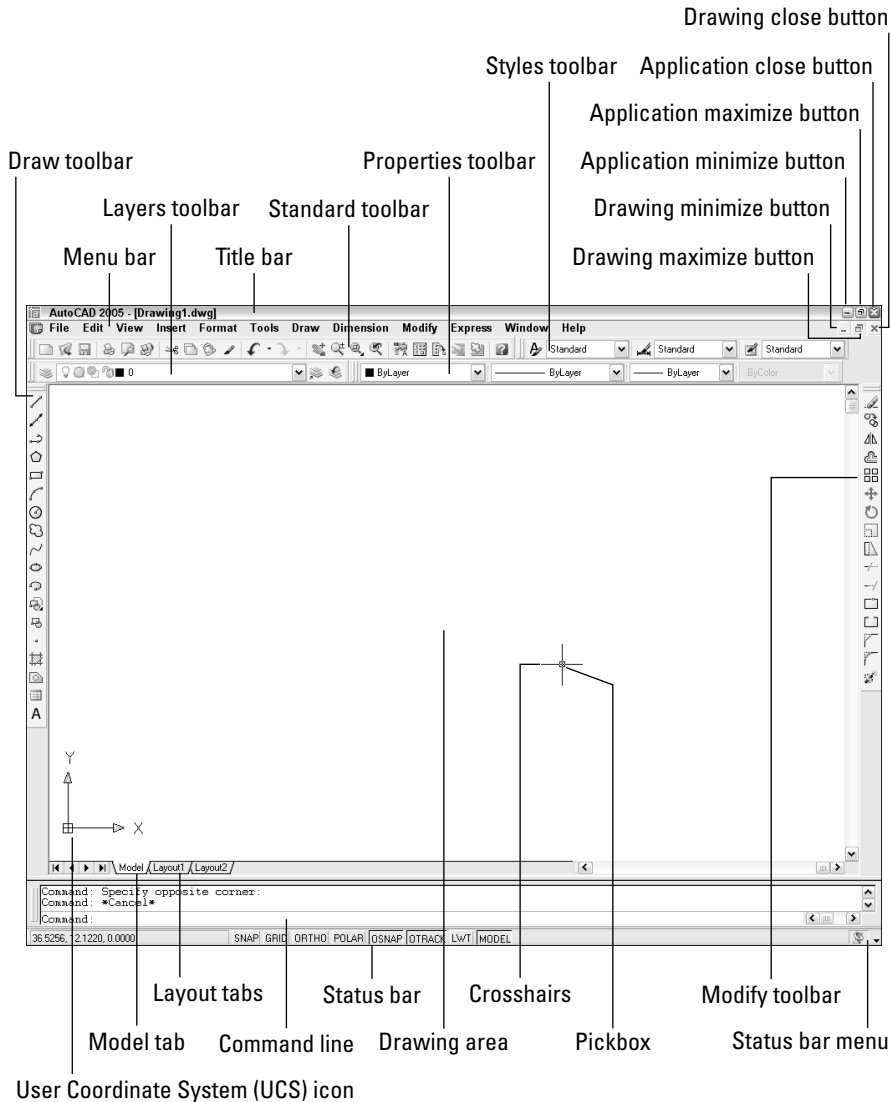

Figure 1-2: The AutoCAD and AutoCAD LT screen are almost identical.
Figure 1-2 shows the screen that appears when you first open AutoCAD or AutoCAD LT. Your screen may look somewhat different — remember that AutoCAD and AutoCAD LT can be customized in many ways — but the general features will be the same.
You may see the Tool Palettes window with some sample office furniture and hatches. You may also see (AutoCAD only) the Sheet Set Manager. I cover the Tools Palettes and Sheet Set Manager in Chapter 26. For now, you can click the palettes' close button to get them out of the way. You may also see the Info Palette, which I cover in Chapter 3. Finally, your screen is probably black, rather than the white screen you see in Figure 1-2. I explain how to change the drawing area color in Appendix A. The AutoCAD LT screen is very similar to the AutoCAD screen.
Notice the symbol with two arrows at the bottom-left corner of the drawing area in Figure 1-2. This symbol is called the User Coordinate System (UCS) icon. The arrows point to the positive directions of the X and Y axes to help you keep your bearings.
In the drawing area of Figure 1-2, notice the two intersecting lines with a small box at their intersection. The small box is called the *pickbox* because it helps you to pick objects. The lines are called *crosshairs*. They show you the location of the mouse cursor in relation to other objects in your drawing.
At the top of your screen is the title bar, and directly beneath the title bar is a menu bar. Below that are two rows of toolbars. In addition, your screen has two more toolbars, the Draw and Modify toolbars, which are probably docked at the left and right sides of the screen (refer to Figure 1-2). Use the menus and toolbars together to give AutoCAD or AutoCAD LT commands to draw, edit, get information, and so on.
At the very bottom of the screen is the *status bar* (refer to Figure 1-2). At the left are the X,Y coordinates. As you move your mouse, these coordinates change. (If they don't change, click them and move your mouse again.) The status bar also sports several buttons that I explain later in this book.
3.  To save the drawing, click Save on the Standard toolbar (refer to Figure 1-2 to find this toolbar). In the Save Drawing As dialog box, use the Save In drop-down list to navigate to the AutoCAD Bible folder that you created in the previous exercise. Type **ab01-01** in the File Name text box and click Save. This name means that this is the first drawing from Chapter 1 of the *AutoCAD 2005 and AutoCAD LT 2005 Bible*. (I go into more detail about saving a drawing in the next section of this chapter.)
4. From the Layer Control drop-down list on the Layers toolbar (refer to Figure 1-2 to find this toolbar), click the down arrow and choose WINDOW. (Layers allow you to organize your drawing; I cover them in detail in Chapter 11.) Anything you draw will now be on the WINDOW layer.
5.  With your left mouse button (also called the *pick button*), choose Rectangle from the Draw toolbar (refer to Figure 1-2 to find this toolbar). (Using toolbars is only one way to give AutoCAD and AutoCAD LT commands. I explain other ways in Chapter 3. You can find more about drawing lines and rectangles in Chapter 6.)
7.  To create a second rectangle inside the first one, choose Offset from the Modify toolbar, (refer to Figure 1-2 to find this toolbar) following these prompts: